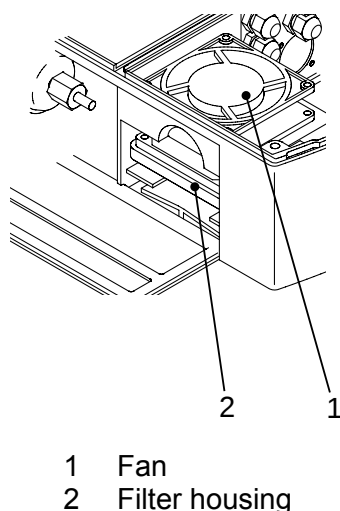

Fig 11.35 Fan removal
- 51.2 Remove and retain the two screws that secure the baffle plate to the base moulding. Move the baffle plate assembly to one side to reveal the fan (Fig 11.35 (1)).
- 52.1 Place the fan (Fig 11.35 (1)) in position in the electronics compartment. Hold the fan filter housing (2) in position in the filter compartment and align the fixing holes with the holes in the fan casing. Secure the fan to the filter housing using the screws removed at Para 51.3.